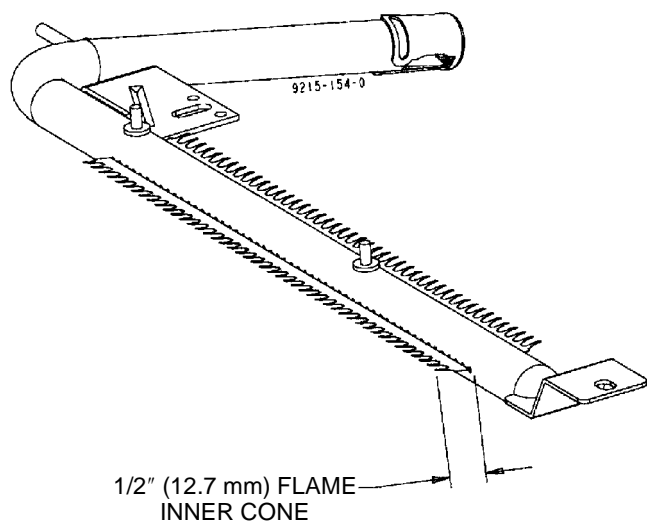

FIGURE 5
- The approximate length of the flame of oven burner is a 1/2 (12.7 mm) inch distinct inner blue flame, figure 5.